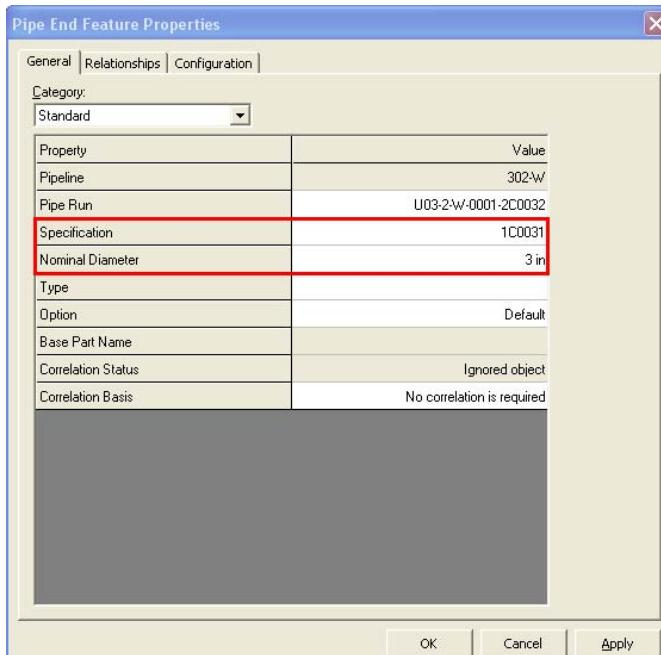

Figure 27: Pipe End Feature Properties Dialog Box
11. Change the following specifications in the **Pipe End Feature Properties** dialog box, as shown in Figure 27, and click **OK**.